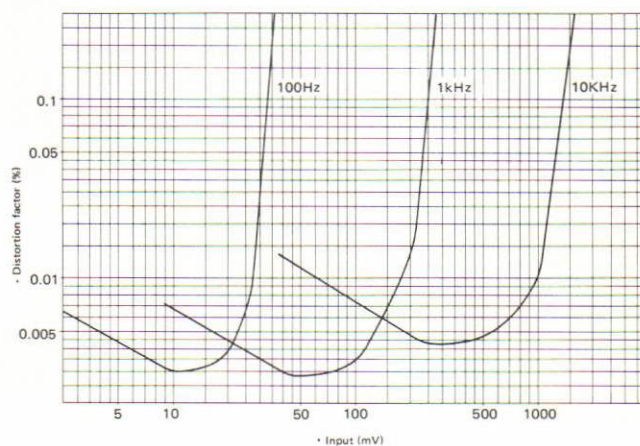

Figure 4-1
■ **EQUALIZER CIRCUIT** (Refer to Figures 4-1 and 4-2)